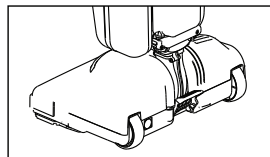

Fig. 5
1. Press the Handle Release Pedal once for normal vacuum cleaning (Fig. 5).